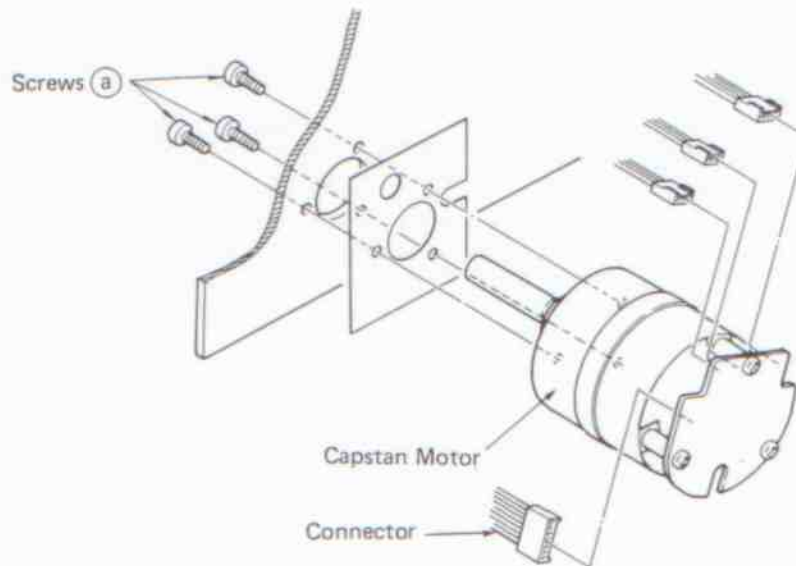

Fig. 7-8. Capstan Motor Ass'y
2. Remove the three screws (a) that are holding the motor section onto the capstan motor assembly as shown in Fig. 7-8. Next, unplug the connector to completely remove the capstan motor assembly.